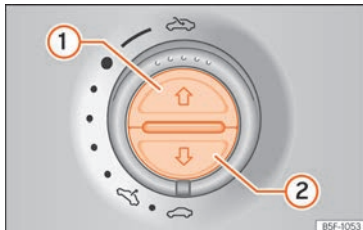

Fig. 111 On the interior roof lining: sunshade blind buttons.
- Press button »» Fig. 111 ① briefly.
- *Sunshade blind*: within approximately 5 seconds of having activated the anti-trap function, press button »» Fig. 111 ② until the sun blind closes completely.